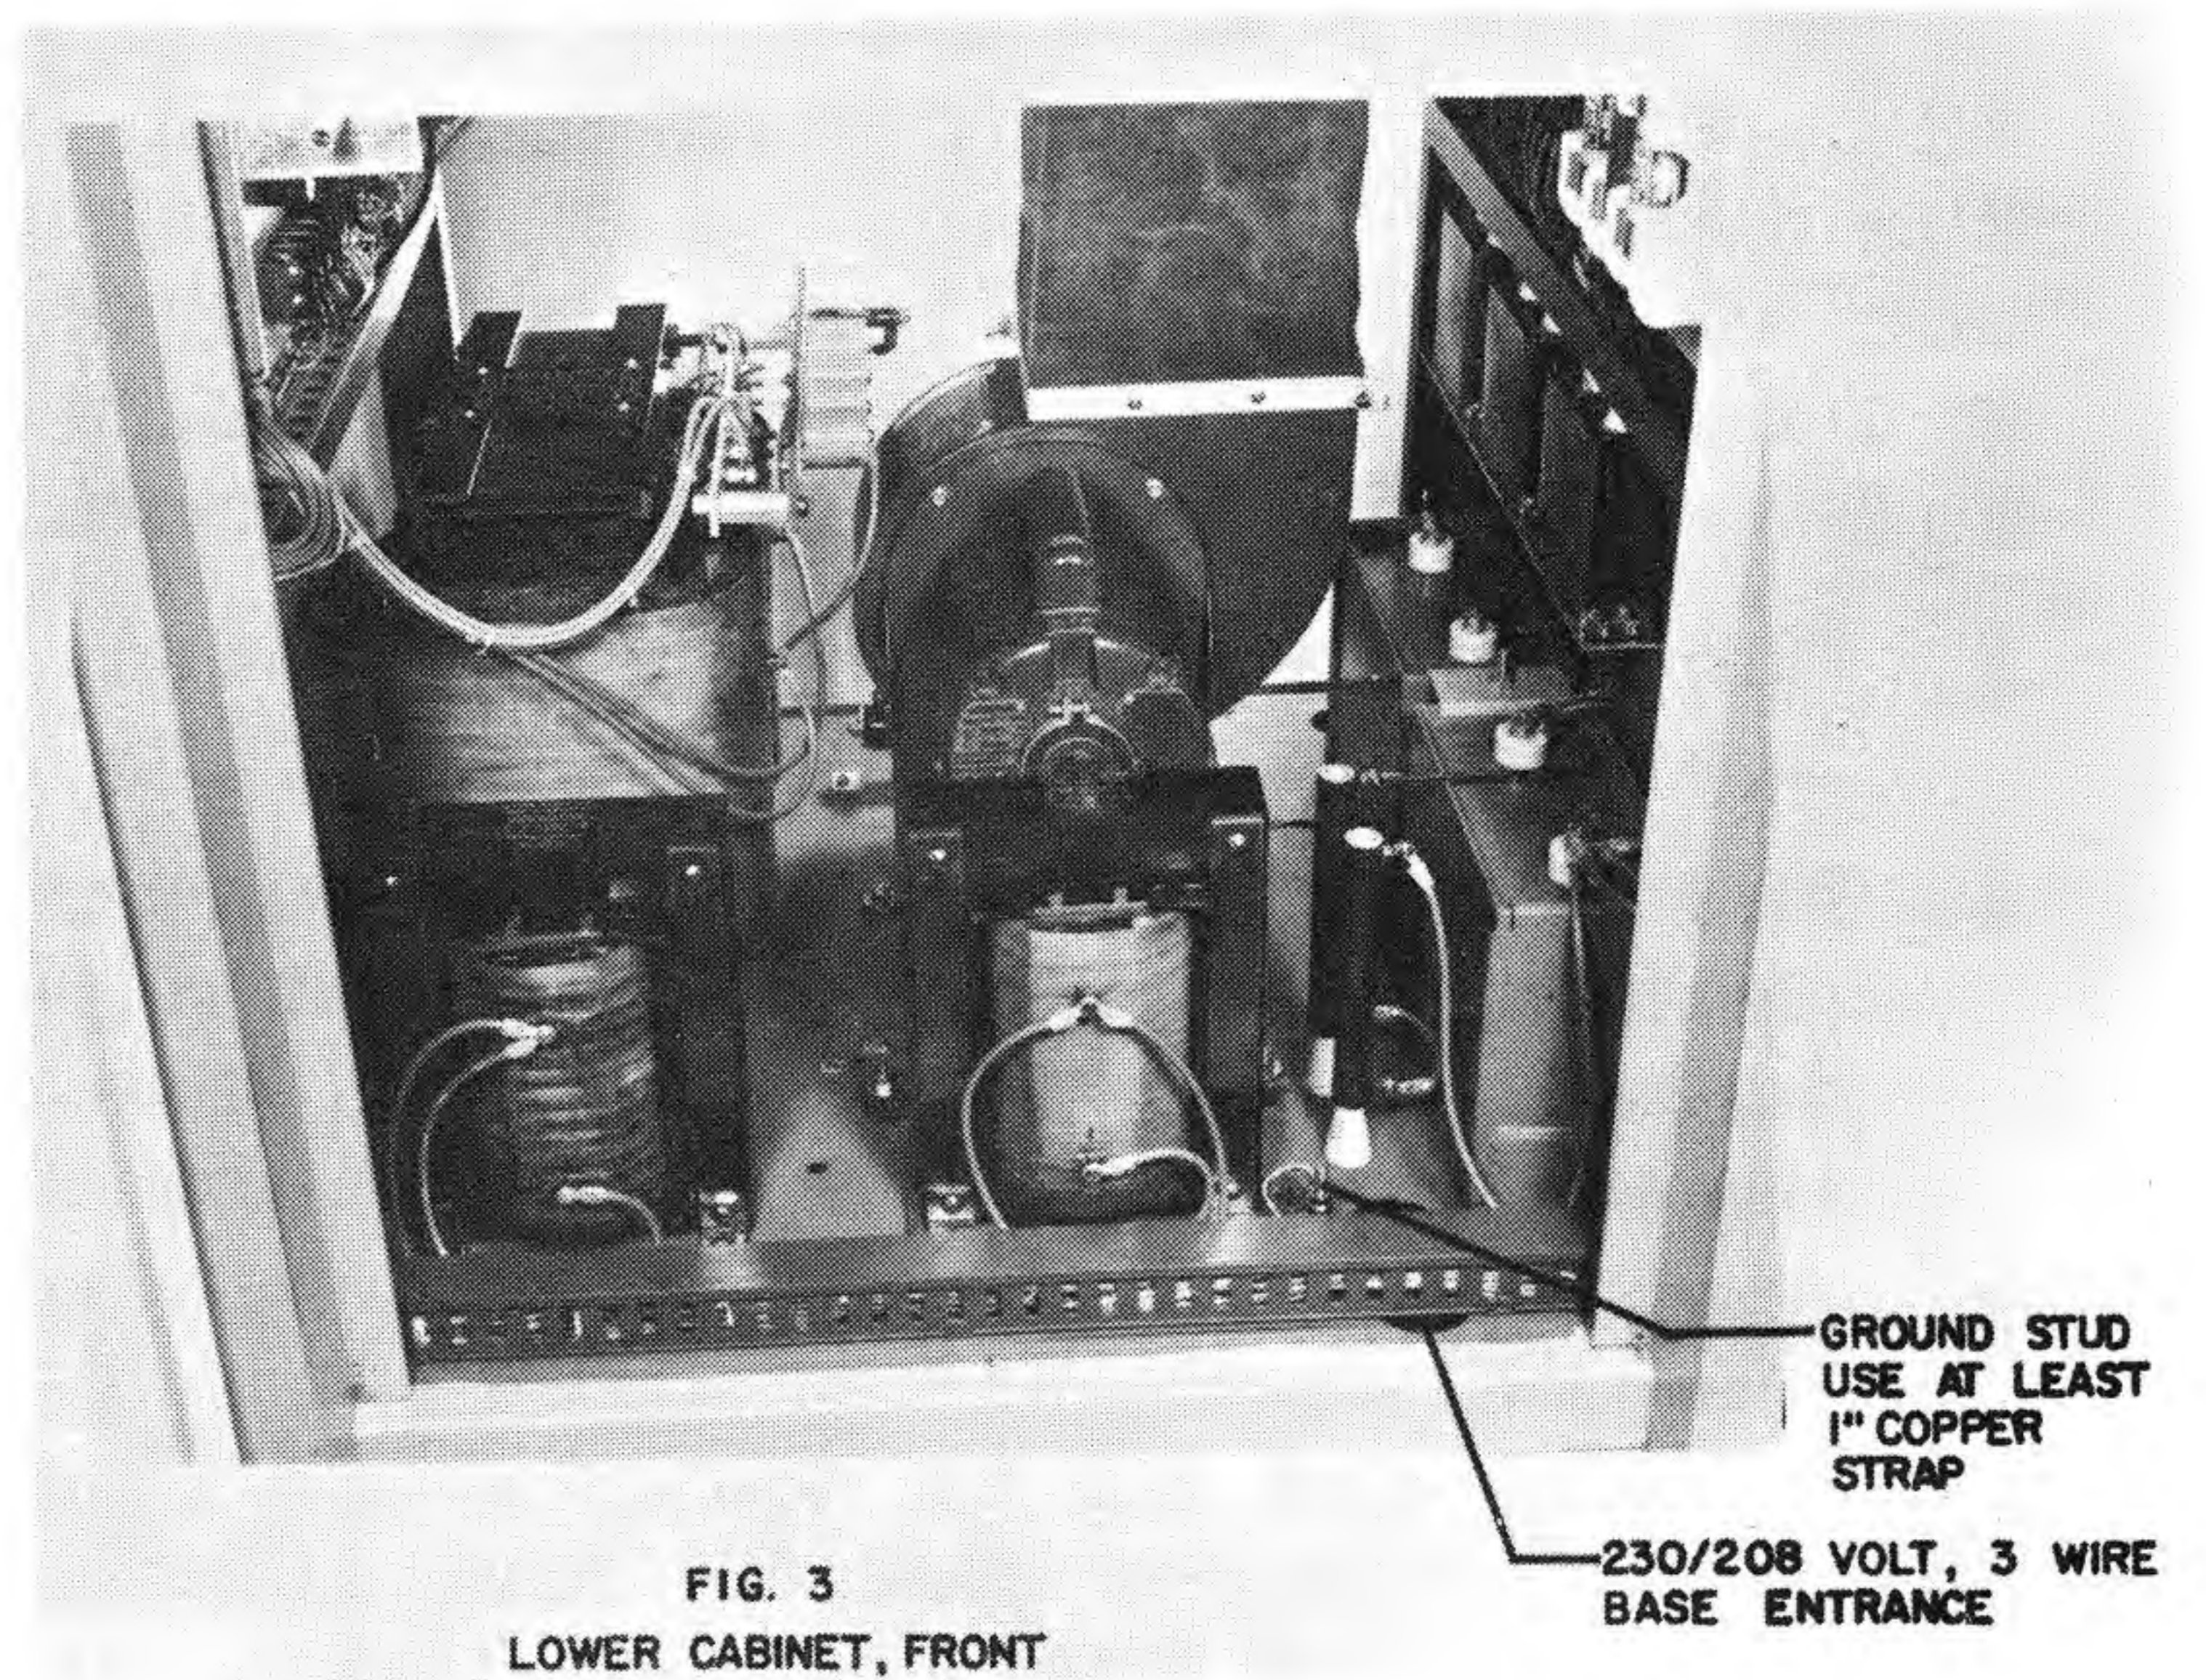

FIG. 3
4. Connect at least 1" copper ground strap (see Page 7, Fig.3). This ground strap should connect directly to the main antenna ground system where all radials terminate under the tower. This is a very important connection and should be done well and complete.